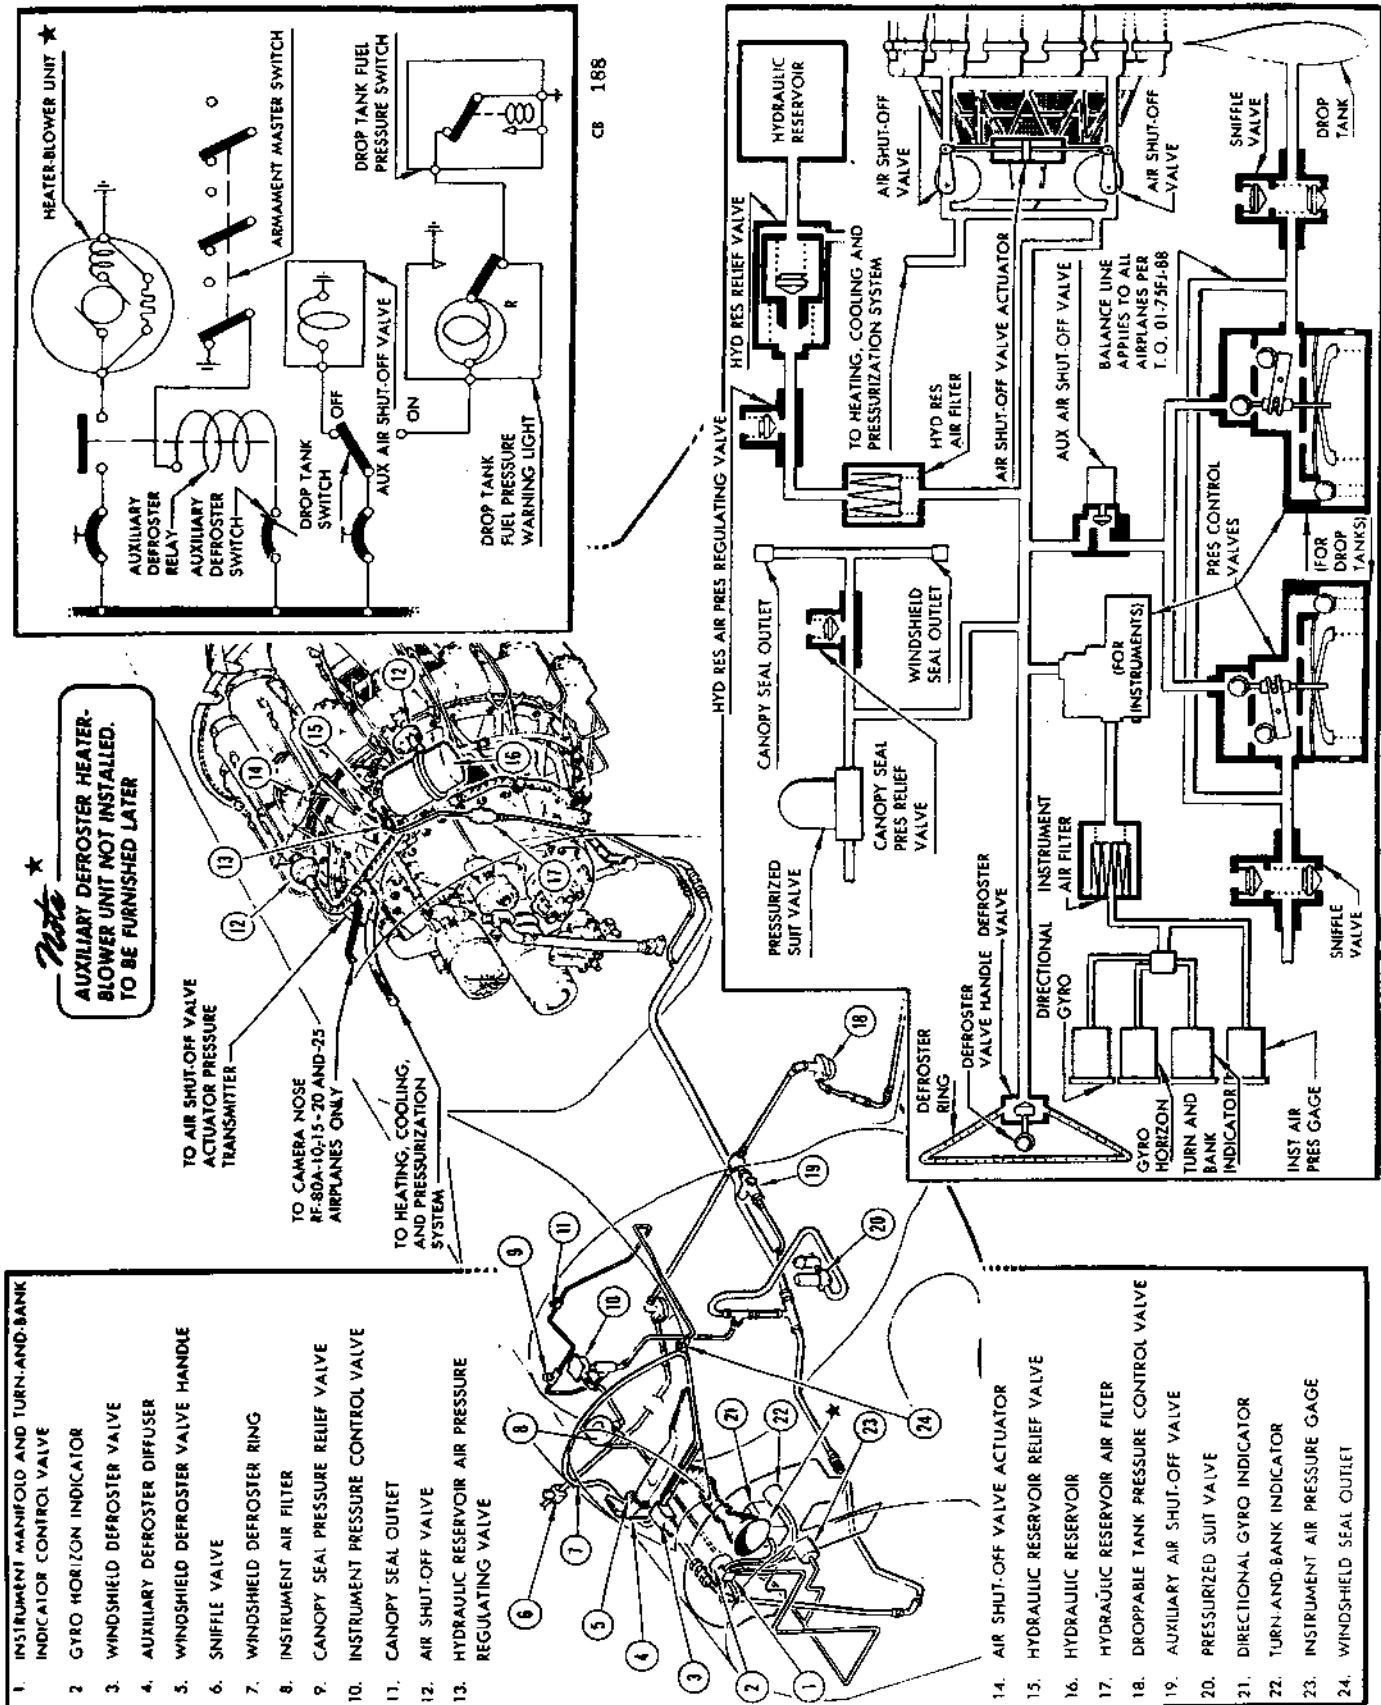

Figure 255A — Auxiliary Air Pressure System, F-80A-10, RF-80A-10, RF-80A-15, RF-80A-20 and RF-80A-25 Airplanes
(3) Connect an air pressure line from a gig to instrument air system at "G" suit valve "T" in sub-cockpit area. (See figure 255A.)
(4) Cap off 3/4-inch "G" suit line after disconnecting it from side outlet of instrument air system "T" in sub-cockpit area.
(5) Seal off static and pitot lines, or plumb them to instrument panel. Cockpit pressure must not leak into static system. Remove or cap altimeter on cockpit right shelf.